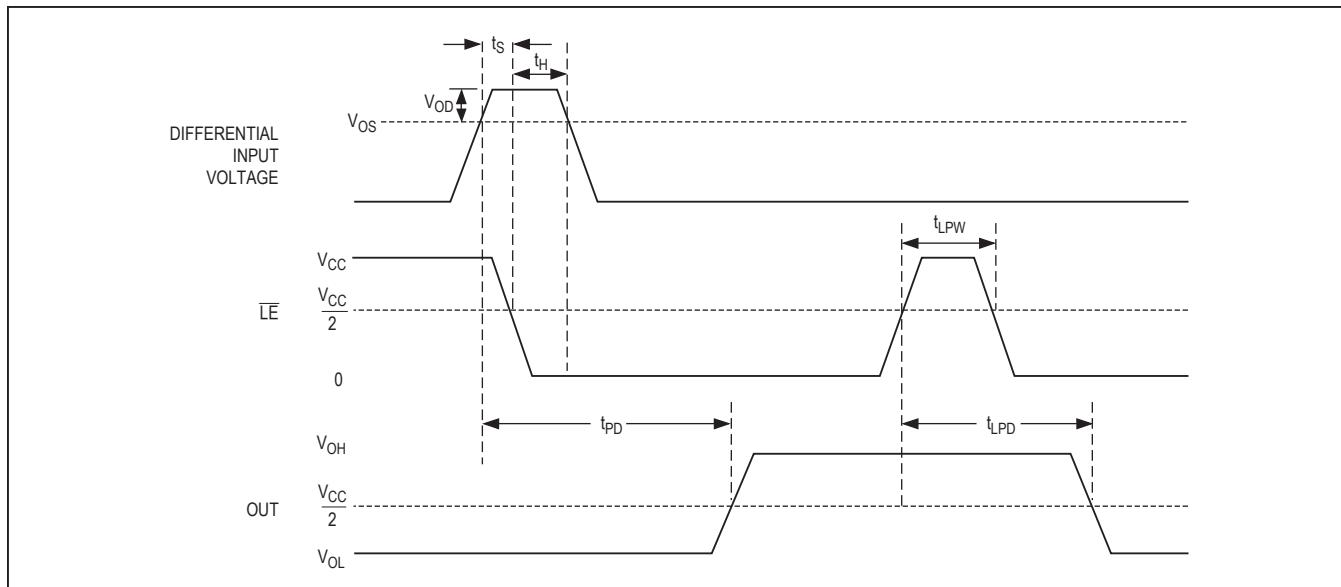

Figure 2. MAX9141 Timing Diagram with Latch Operator
**Note 12:** Applies to the MAX9141 only. Comparator is active with  $\overline{LE}$  driven high and is latched with  $\overline{LE}$  driven low ( $V_{OD} = 10mV$ ). See Figure 2.
The MAX9141 includes an internal latch that allows storage of comparison results. The LE pin has a high input impedance. If LE is high, the latch is transparent (i.e., the comparator operates as though the latch is not present). The comparator's output state is latched when LE is pulled low (Figure 2).